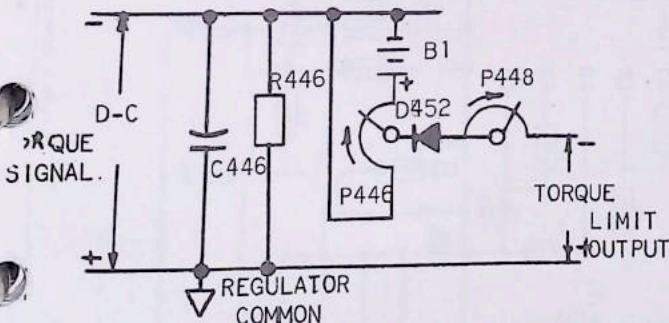

FIG. 2. SIMPLIFIED TORQUE LIMIT CIRCUIT WITH A D-C LIMIT INPUT SIGNAL (UP DIRECTION)
THE SIMPLIFIED LIMIT CIRCUIT FOR ACCELERATION (UP) IS SHOWN IN FIG. 2. THE POSITIVE INPUT SIGNAL IS CONNECTED TO REGULATOR COMMON AND THE NEGATIVE TO A POTENTIOMETER (P446) AND A BIAS VOLTAGE (B1). THE POTENTIOMETER ADJUSTS THE BACK BIAS VOLTAGE ON DIODE D452. WHEN THE TORQUE LIMIT SIGNAL BECOMES GREATER THAN THE BACK BIAS VOLTAGE ON D452, THE DIODE CONDUCTS. THIS TORQUE LIMIT OUTPUT SIGNAL OVERRIDES THE REGULATOR REFERENCE SIGNAL AND LIMITS THE DRIVE OUTPUT TORQUE WHEN ACCELERATING.